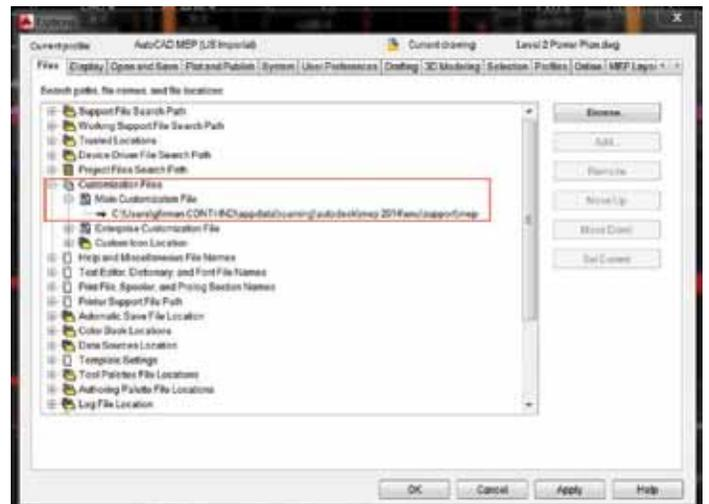

Figure 1: Locating the root of the CUIX file within the Options menu
- Begin by locating the CUIX file. You can find out where your CUIX file is located by opening the Options menu, and under the Files tab expand "Main Customization File" (Figure 1).